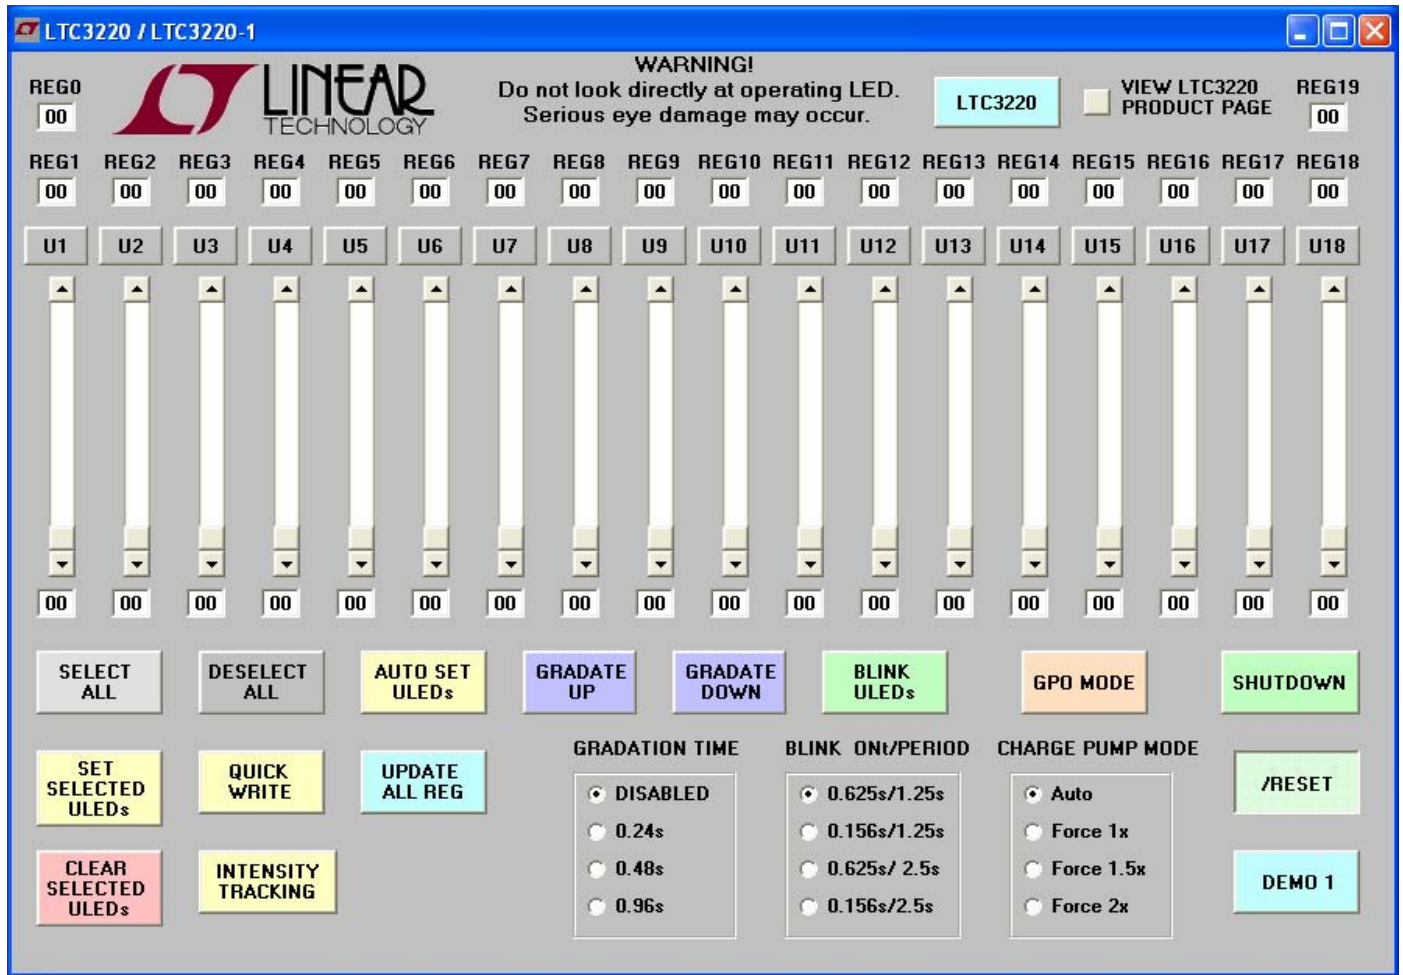

Figure 5. LTC3220 Control Window
6. Run the QuikEval program. The program detects the DC1265 and displays the LTC3220 control window (shown in Figure 5).